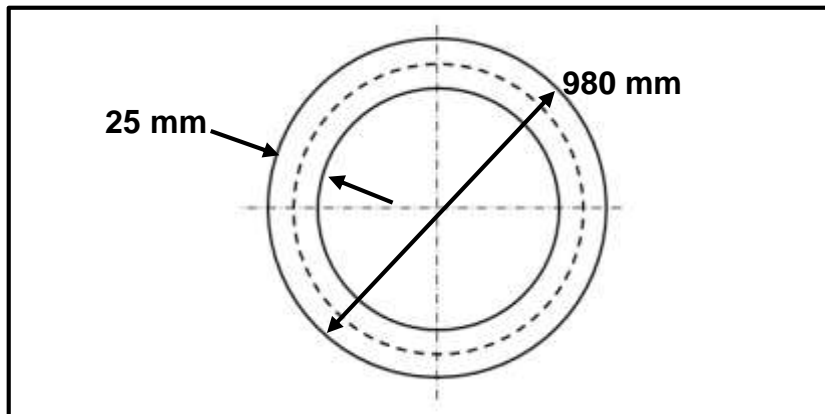

FIGURE 5.3
- 5.3 FIGURE 5.3 below shows a steel ring that must be manufactured using a 25 x 25 mm square bar. The ring has an outside diameter of 980 mm.